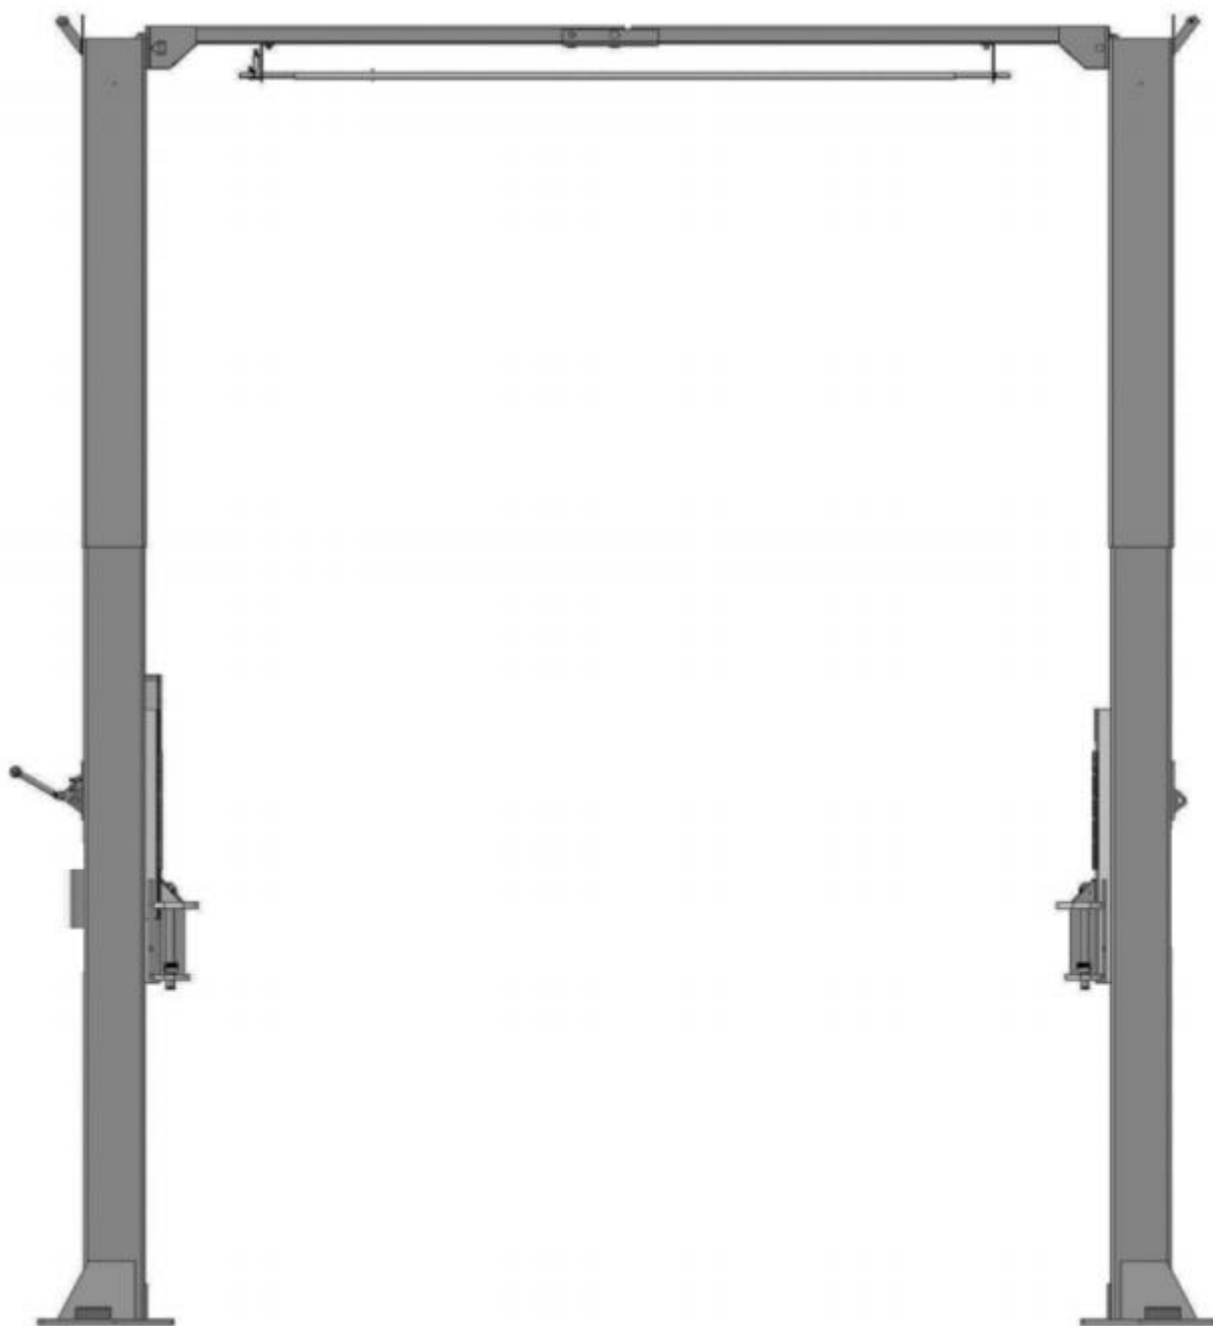

Fig. 26
K. Lift the carriages up manually and set on the 1st set of locks. **(See Fig. 26).**